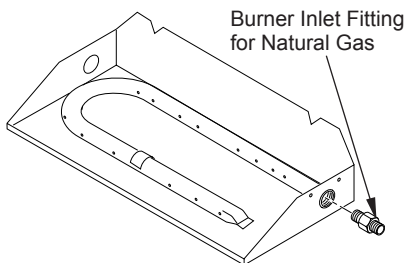

Figure 15 - Remove Burner Inlet Fitting
4. Using thread sealant (resistant to action of propane/LP gas) on larger end of fitting, screw burner inlet fitting through hole and into burner manifold, see Figure 15. Tighten using a wrench.